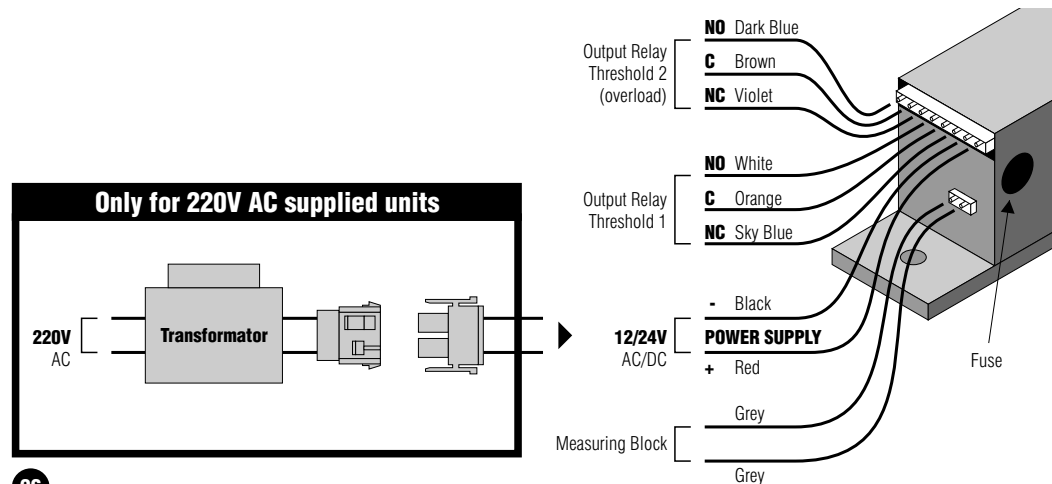

Fig. 8
1. Make sure that your power supply fits the above values and then connect it to the main connector without inserting for the moment this connector into the LLEC5 (Fig.8).